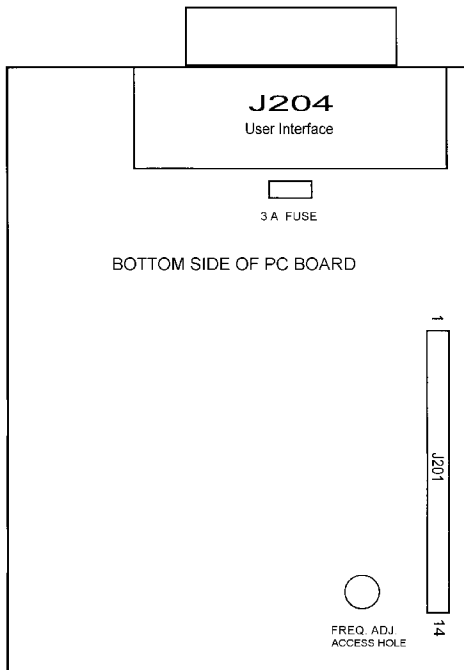

Figure 4-2 JSLM² Loader Board Frequency Adjustment Access
The module frequency is controlled by a temperature compensated crystal oscillator (DCXO) which has a frequency stability of ± 1.5 parts per million over a temperature range of -30 to $+60^{\circ}$ C. When transmitting (for example) at 450 MHz, the output frequency should be $450 \text{ MHz} \pm 675 \text{ Hz}$ over temperature. The operating frequency may be adjusted through the case of the JSLM². Connect the User Interface Cable included in the JSLM² Field Programming Kit (part number: 250-2100-001). Connect the antenna port to a frequency counter or other frequency measurement instrument. Locate the Frequency Adjust Access Hole on the bottom side of the Loader Board (see Figure 4-2). Enable the transmitter PTT Line and use a small screwdriver to adjust the DCXO for the desired transmit frequency.
- Check the fuse on the Loader Board (see Figure 4-2).